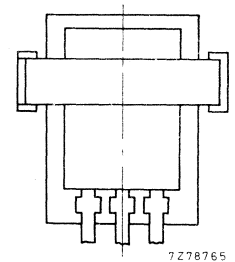

Fig. 6 Position of transistor (top view).
3. Push down the clip over the device until the long end of the clip snaps into the wide slot in the heatsink. The clip should bear on the plastic body (Fig. 6). There should be minimum 3 mm distance between the device and the edge of the insulator for adequate creepage.